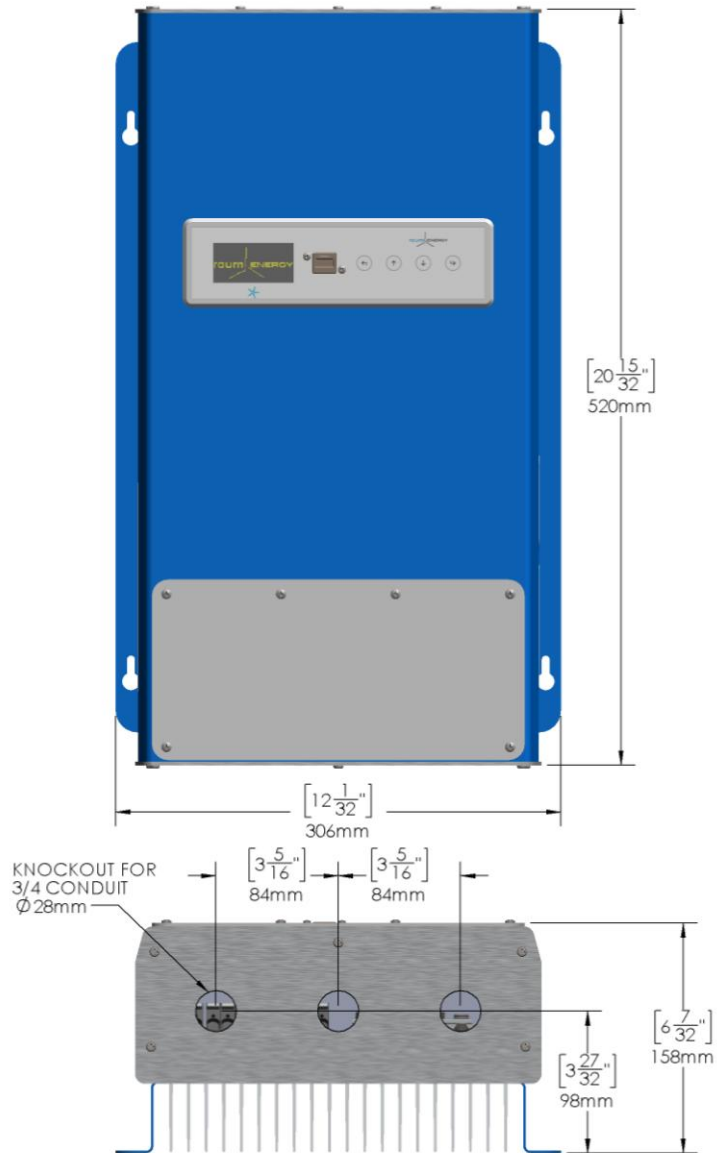

Figure 3 - Raum4000b Dimensions
- The wiring compartment on the battery charger features trade size 21 (US $\frac{3}{4}$) knockouts on the bottom for feeding power connections from the generator and utility panel as well as communication lines. These knockouts are compatible with listed watertight conduit fittings. Actual dimensions are shown in Figure 3.
- The physical dimensions of the battery charger are given in Figure 3.